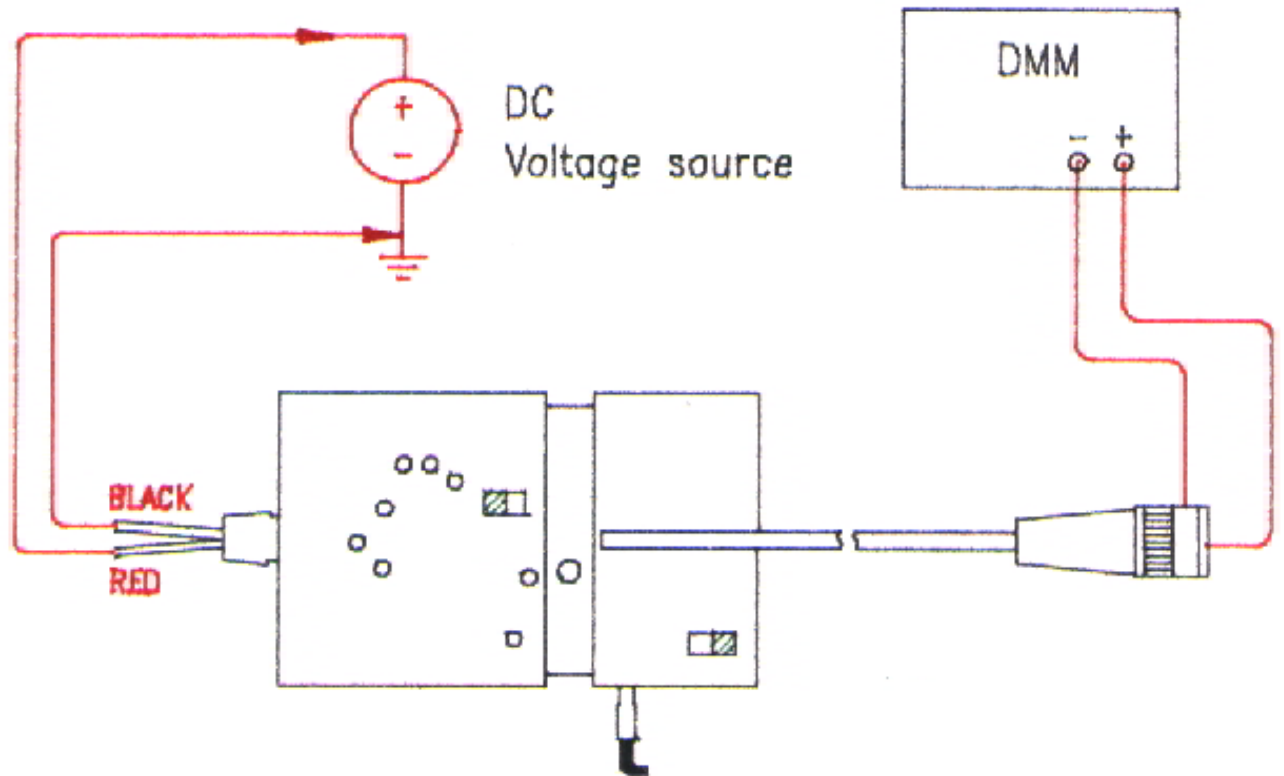

Fig. 13
- Referring to Fig. 13, connect output BNC to a DMM.